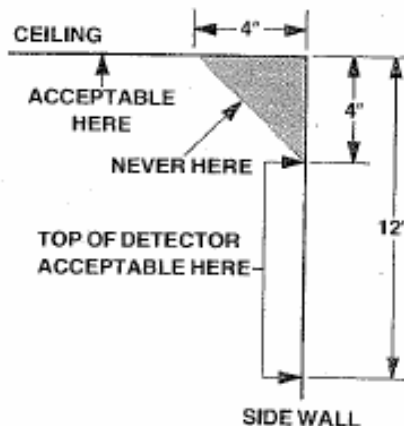

FIGURE 1
- Locate heat detectors upon the ceiling not less than 4" from the side wall or on the side walls between 4" and 12" from the ceiling. See Figure 1. (3.4.1)
- Locate smoke detectors on the ceiling not less than 4" from the sidewall to the near edge, or if on a sidewall, between 4" and 12" down from the ceiling to the top of the detector. See Figure 1. (4-4.2)